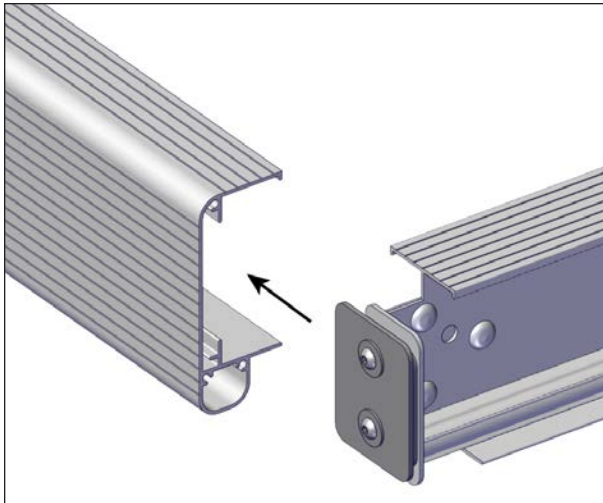

FIGURE 29: I-BEAM INSTALLATION
7. Slide one I-beam with short I to C connection plates in the C-channels. Install the I-beam in such a manner that the bent portion of the I to C bracket is pointing outwards (Figure 29). Make sure it fits snugly with the foam panel. Ensure the top label in the I-beam is pointing upwards.